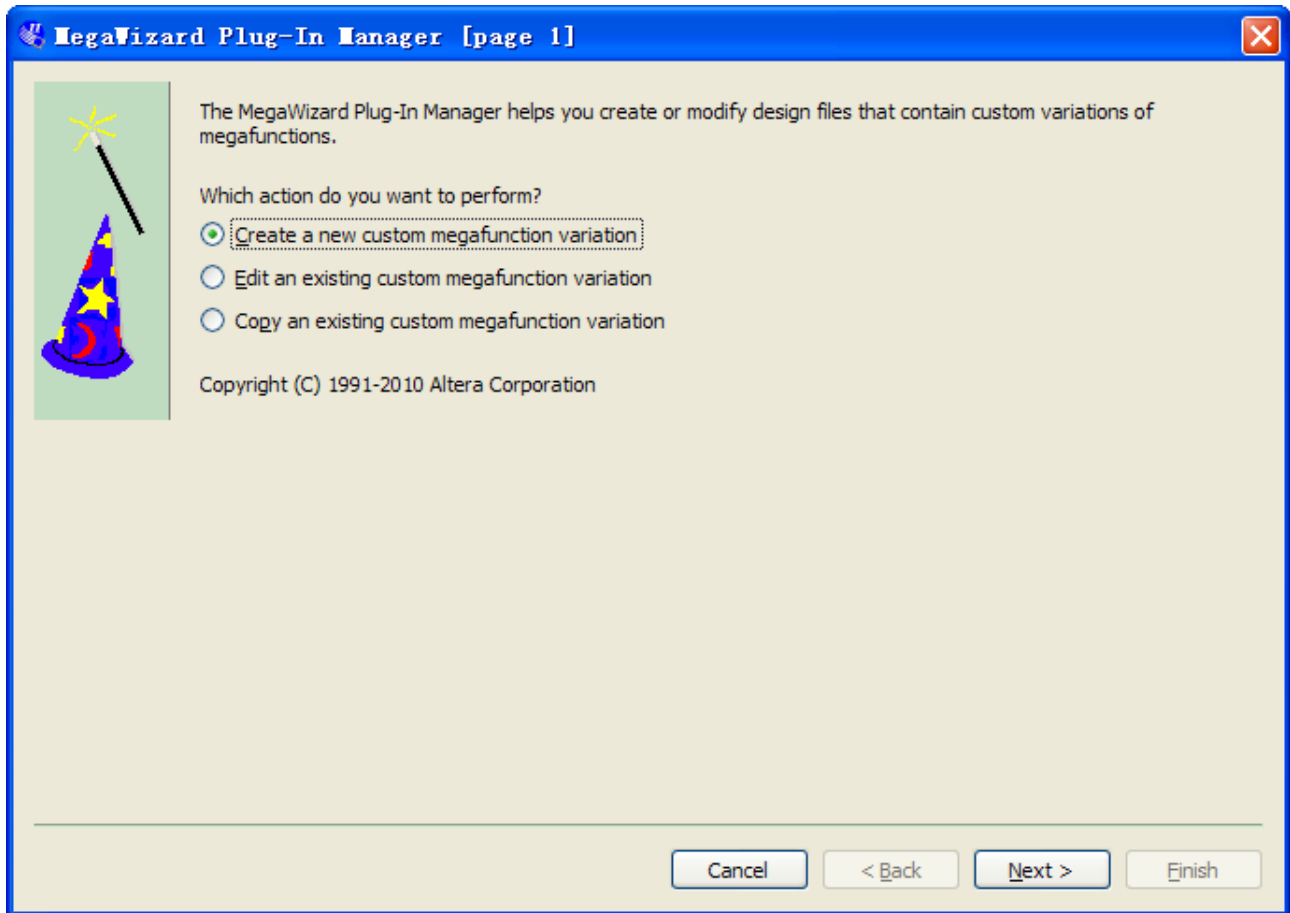

Figure 6-19 Mega Wizard Plug-In Manager
2. Click the **Megawizard Plug-in Manager** button. The MegaWizard® Plug-In Manager appears, as shown in **Figure 6-19**.